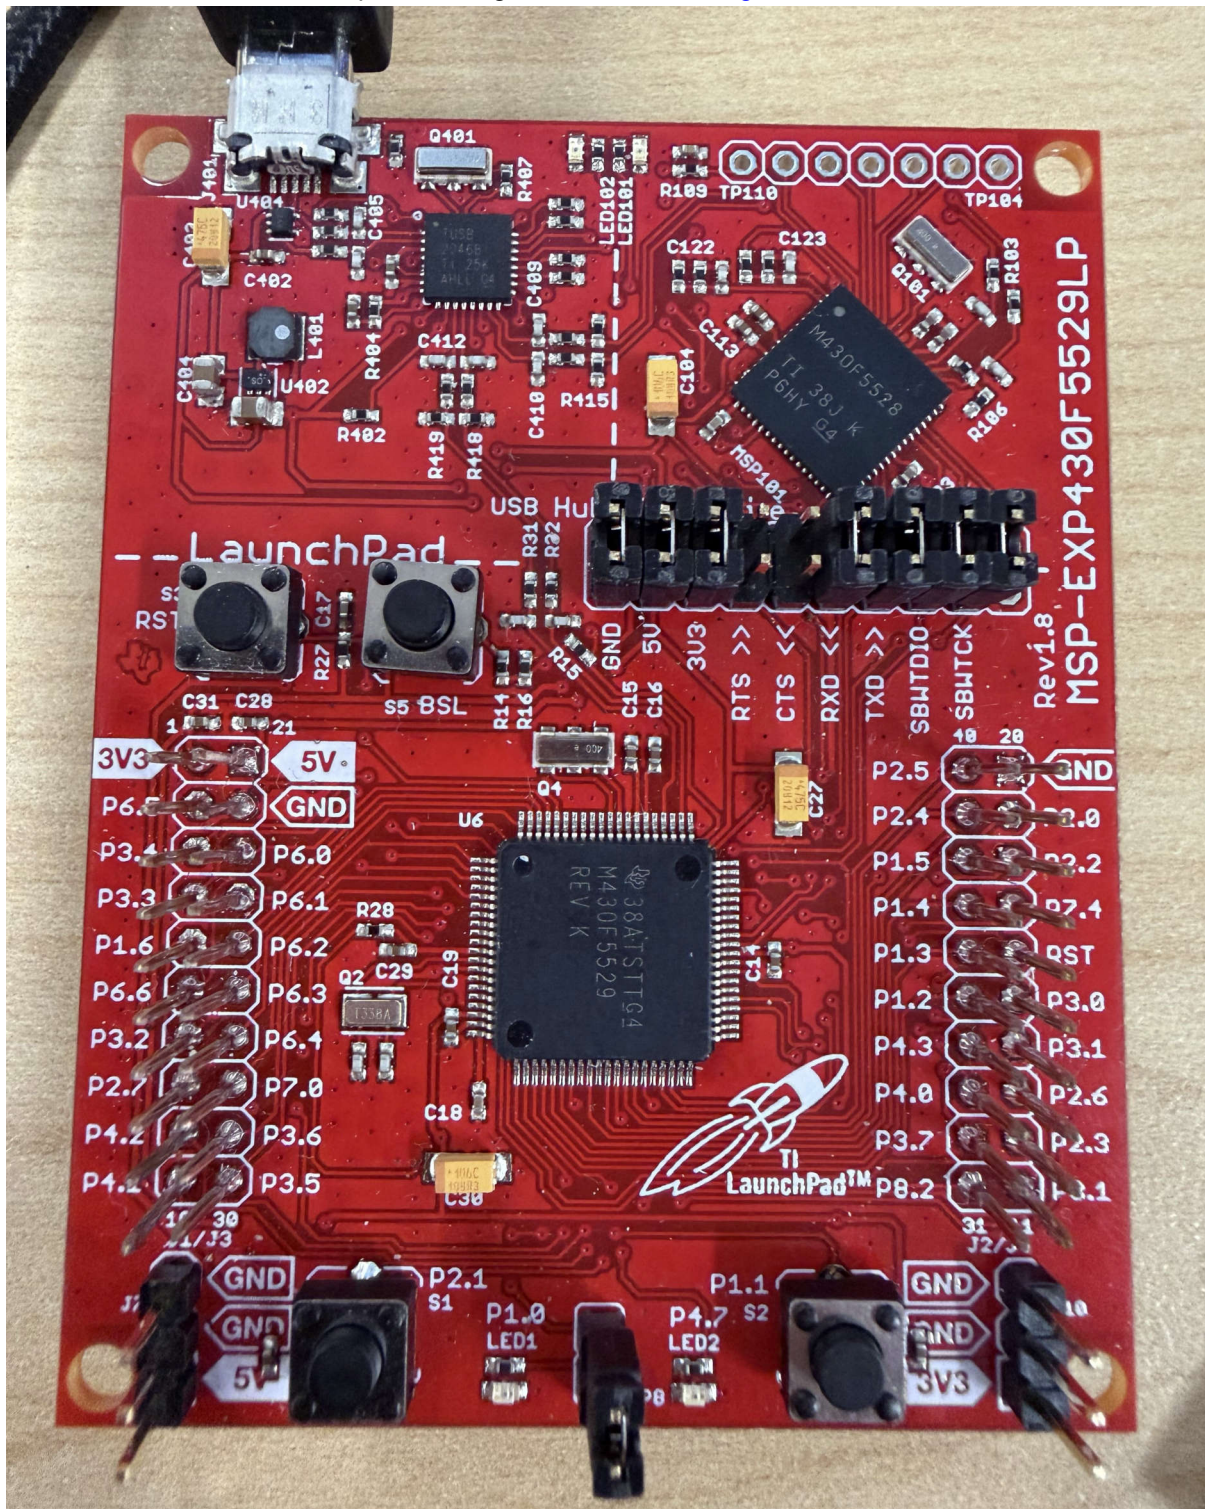

Figure 2-1. MSP430 Launchpad Configuration
1. Make sure the MSP430 launchpad is configured as shown in Figure 2-1.